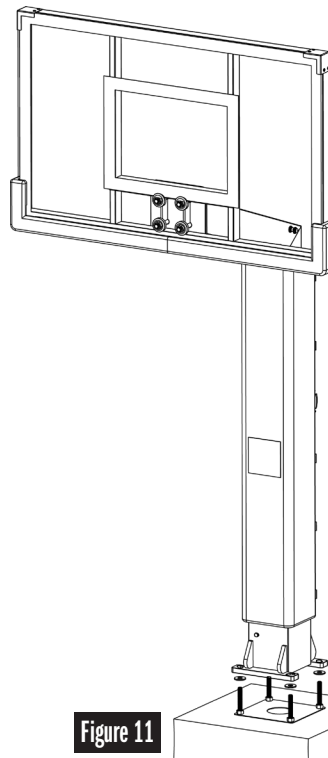

Figure 11
- Stand the hoop straight up and lift onto the bolt plate. See Figure 11.